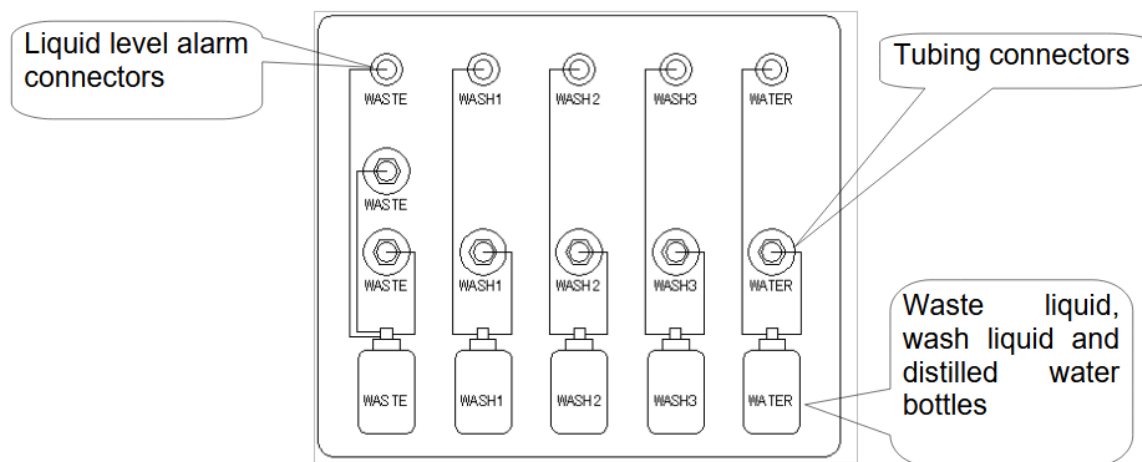

Figure 3
- Connect the signal line: As shown in Fig.3, in the face of the rear side of the instrument, from left to right, connect the signal lines of the waste bottle, wash bottle 1, wash bottle 2, wash bottle 3 and distilled water bottle according to the sequence of the bottles.